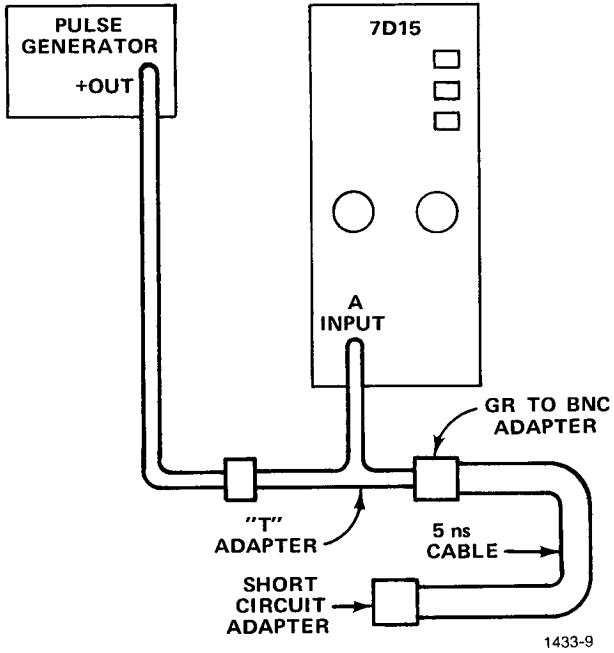

Fig. 5-3. Equipment setup used to check TIM WIDTH A accuracy.
b. Remove the Feed-Through Termination from the cable and connect as shown in Figure 5-3.